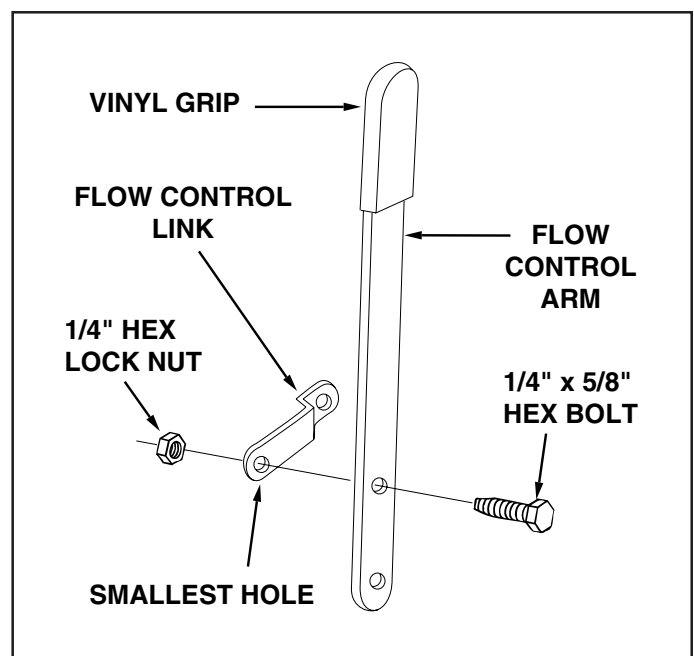

FIGURE 9
15. Assemble the flow control link (the end with the small hole) to the flow control arm using one 1/4" x 5/8" hex bolt and one 1/4" lock nut. **Do not over tighten.** The flow control link must pivot freely. See figure 9.
16. Place the vinyl grip on the flow control arm. See figure 9.